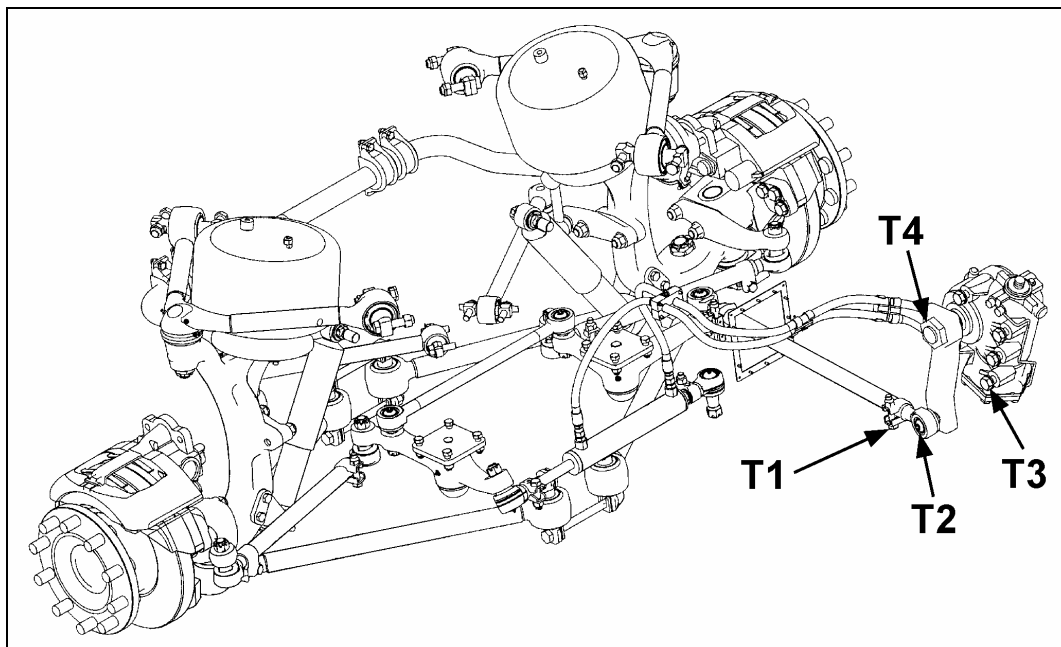

FIGURE 12: DRAG LINK COMPONENTS
| Drag Link Socket End Clamp Bolt Nut (2) | Fig. 12, T1 | 40-60 | 55-80 |
| Drag Link End Stud Nut (on steering arm) | Fig. 12, T2 | 150-200 | 203-271 |
| Steering Gear Fixing Bolts (5) | Fig. 12, T3 | 365-405 | 495-550 |
| Pitman Arm Fixing Nut | Fig. 12, T4 | 470-570 | 637-773 |